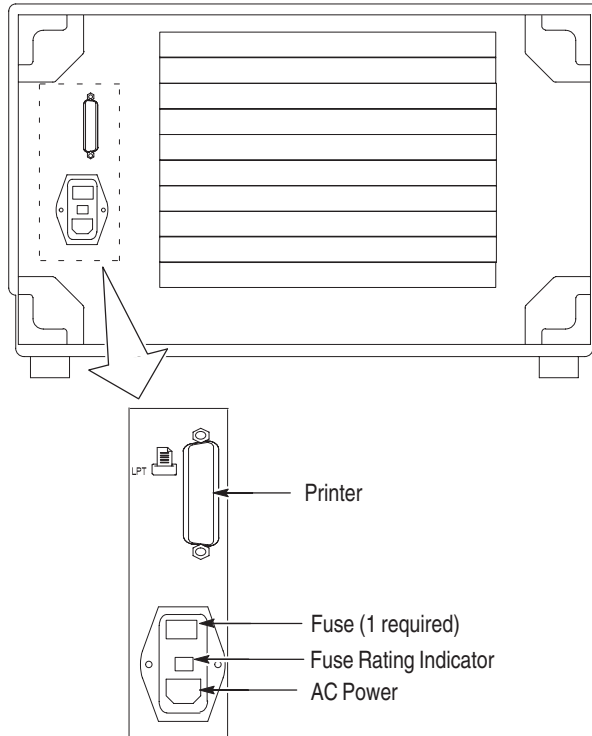

Figure 1-6: Line fuse and power cord connector locations
2. Connect the proper power cord. See Figure 1-6.